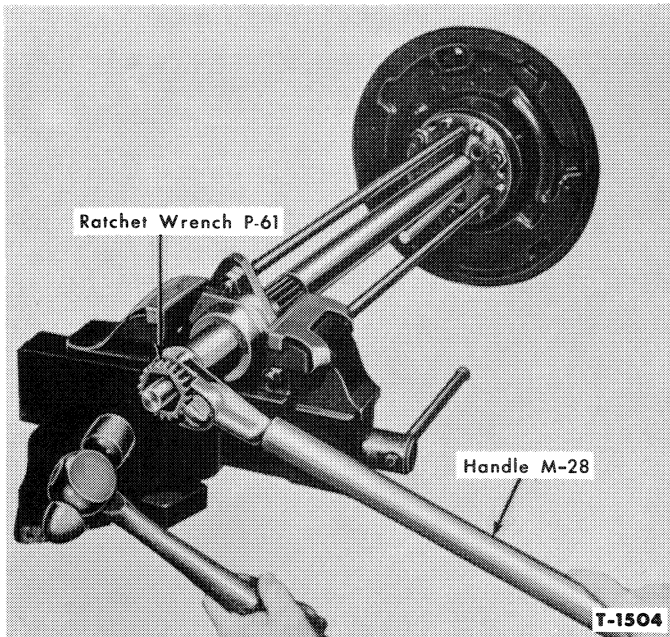

Figure 4—Pushing Axle Shaft Out of Bearing
7. Turn the fixture screw clockwise and at the same time, strike the head of the screw sharply with a hammer to break the bearing loose, Figure 4. Remove the axle shaft and brake plate.